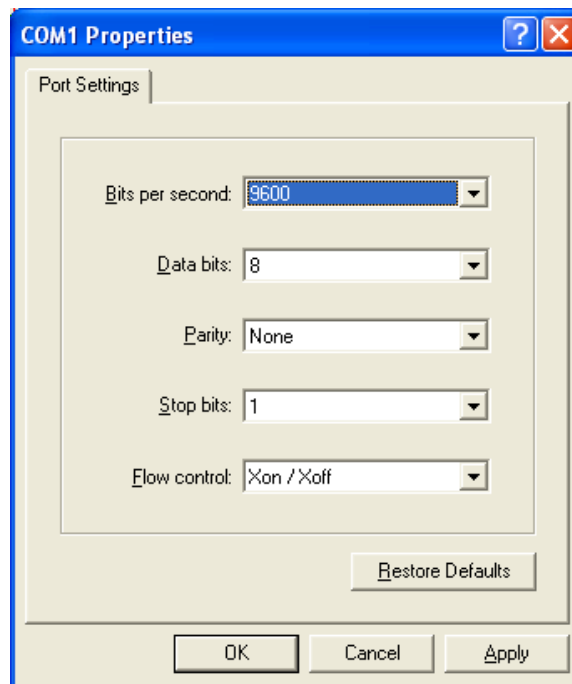

Figure 3-1: Port Speed and Handshake Setup
- Open a Windows' Hyperterminal session at 9600 or 300 bps (depending on the setting of jumper connected to DIO_08 – see the 71M6521 Demo Board User's Manual), 8N1, one stop bit, with XON/XOFF flow control enabled. The setup dialog box is shown in Figure 3-1:
Note: HyperTerminal can be found by selecting Programs → Accessories → Communications from the Windows® start menu. The connection parameters are configured by selecting File → Properties and then by pressing the Configure button. Port speed and flow control are configured under the General tab, bit settings are configured by pressing the Configure button (Figure 3-1:), as shown below.